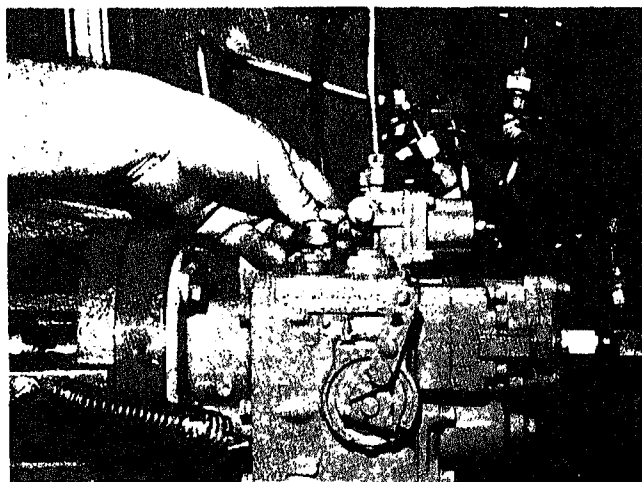

Fig. 511-12. Opening shut-down valve
1. Open completely the fuel pump shut-down valve (manual button Fig. 511-12) and flow control valve. Open throttle, wide open position, (secure open with a spring) start and run pump at 500 rpm. If pump does not pick up check for closed valves in the suction line, an air leak or for incorrect rotation of pump.